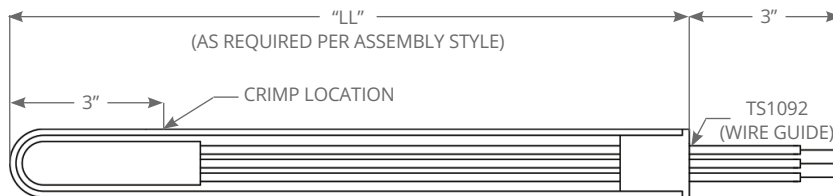

Figure 3
- 2 Insert the pod into the housing. (See Figure 3)